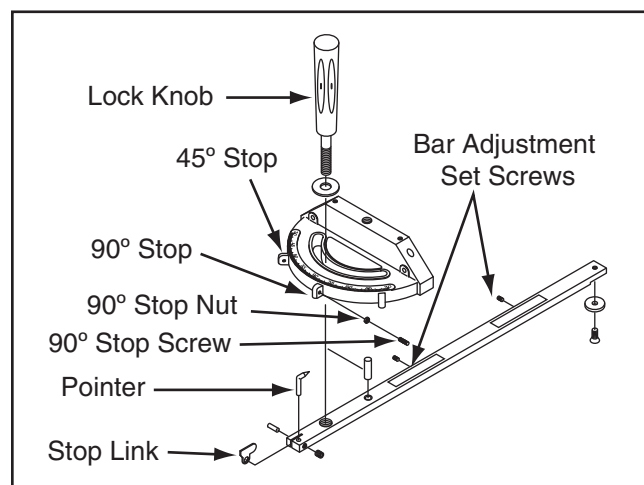

Figure 126. Miter gauge features.
The miter gauge (see **Figure 126**) is equipped with stop screws that allow you to easily adjust the miter gauge from 45° to the left, 90°, and 45° to the right. The stop screws contact a stop link, which moves in or out of the way for adjustments. Also, a pair of set screws can be adjusted so the miter bar is snug in the T-slot.
3. Loosen the miter gauge lock knob, raise the stop link (see **Figure 126**) all the way up.